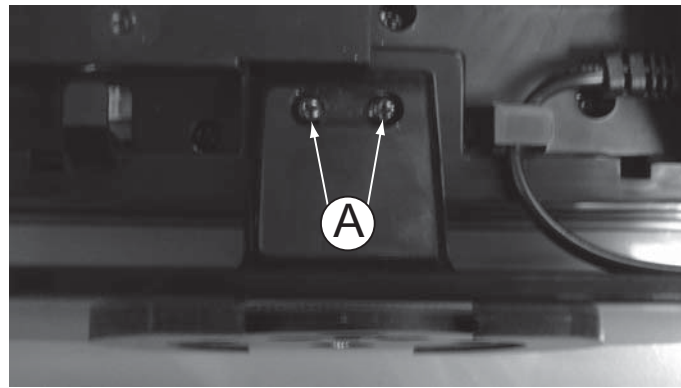

Figure 2
- 2) Loosen 2 screws "A" to remove footstand ass'y as shown in figure 2.